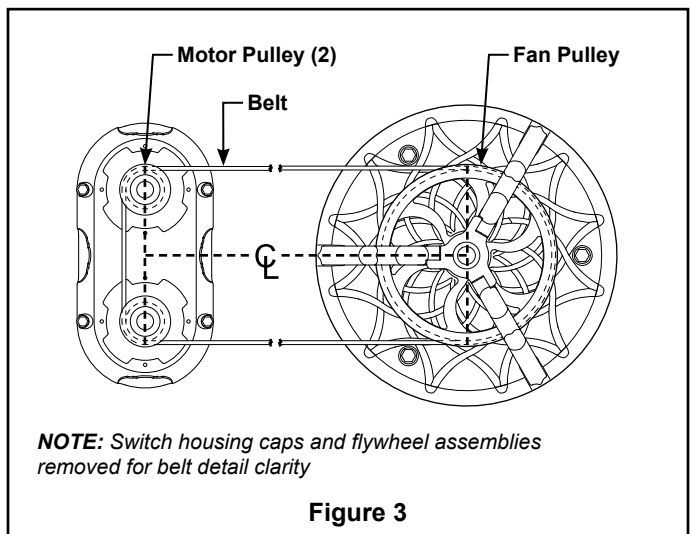

Figure 3
**NOTE:** Motor assembly **must** be perpendicular to the direction of belting running from the motor to the first fan. Drive belt **must** wrap around both motor pulleys. Be sure to position the fan pulley so that the belt won't rub against the support legs. (Figure 3) Be sure of your belt-layout plans before installing both the motor and fan assemblies.
**Please NOTE the importance of orienting the fan/pulley unit to the motor and the adjacent fan/pulley unit. (Figure 3)**
3. Using the rivets, rivet washers, and the rivet tool provided, install two rivets. The flat head of the rivet must be on the inside of the belt (the side touching the pulley), while the rivet washer is placed on the outside of the belt. (Figures 3, 4, & 5)